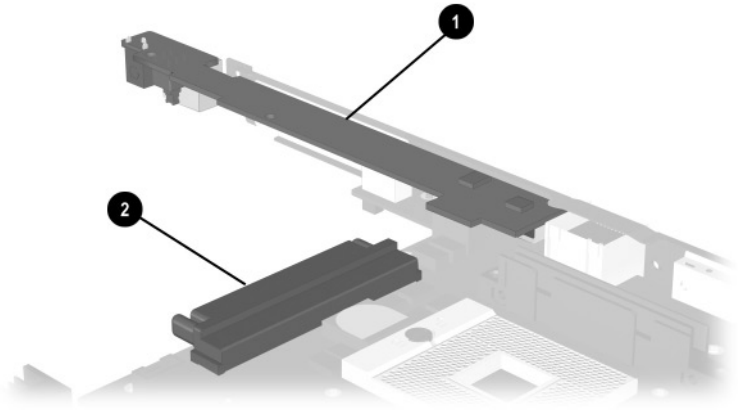

Figure 5-29. Proper Handling of the I/O Interface Board on an Evo Notebook N610c
Figure 5-29 applies only to Evo Notebook N610c models. When handling the system board, be careful not to put stress on the I/O interface board ❶. The narrow profile of this board makes it susceptible to being damaged when mishandled. The I/O board should only be removed and handled using the Media Bay connector ❷.